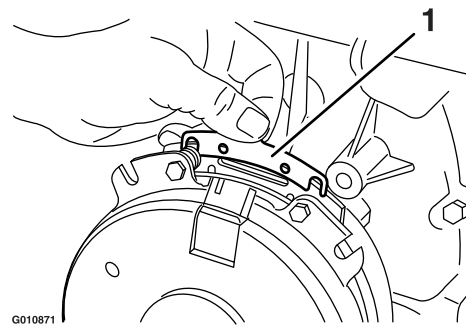

**Figure 66**
- A. Loosen both brake-mounting bolts 1/2 to 1 full turn as shown in Figure 66.